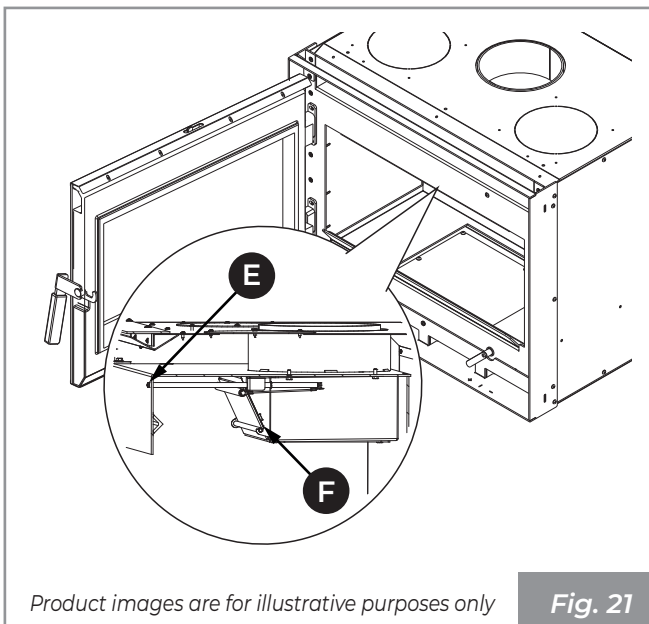

Fig. 21
The Ecopalex is supplied with the bypass valve (F) already adjusted against the box (Fig. 21). If the adjustment is not adequate, recalibrate the valve in order to obtain good combustion.
#### 3. Loosen the screw (E) in order to place the bypass valve (F) against the box (Fig. 21).